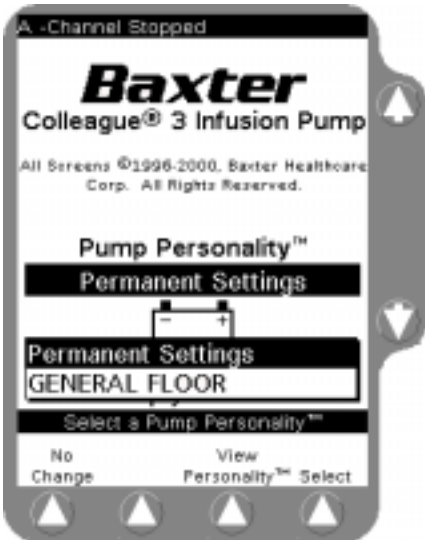

Figure 5-35 Examples of Custom Personality Feature Sets
2. Use the $\uparrow\downarrow$ keys to highlight the desired Personality feature set (Figure 5-35).